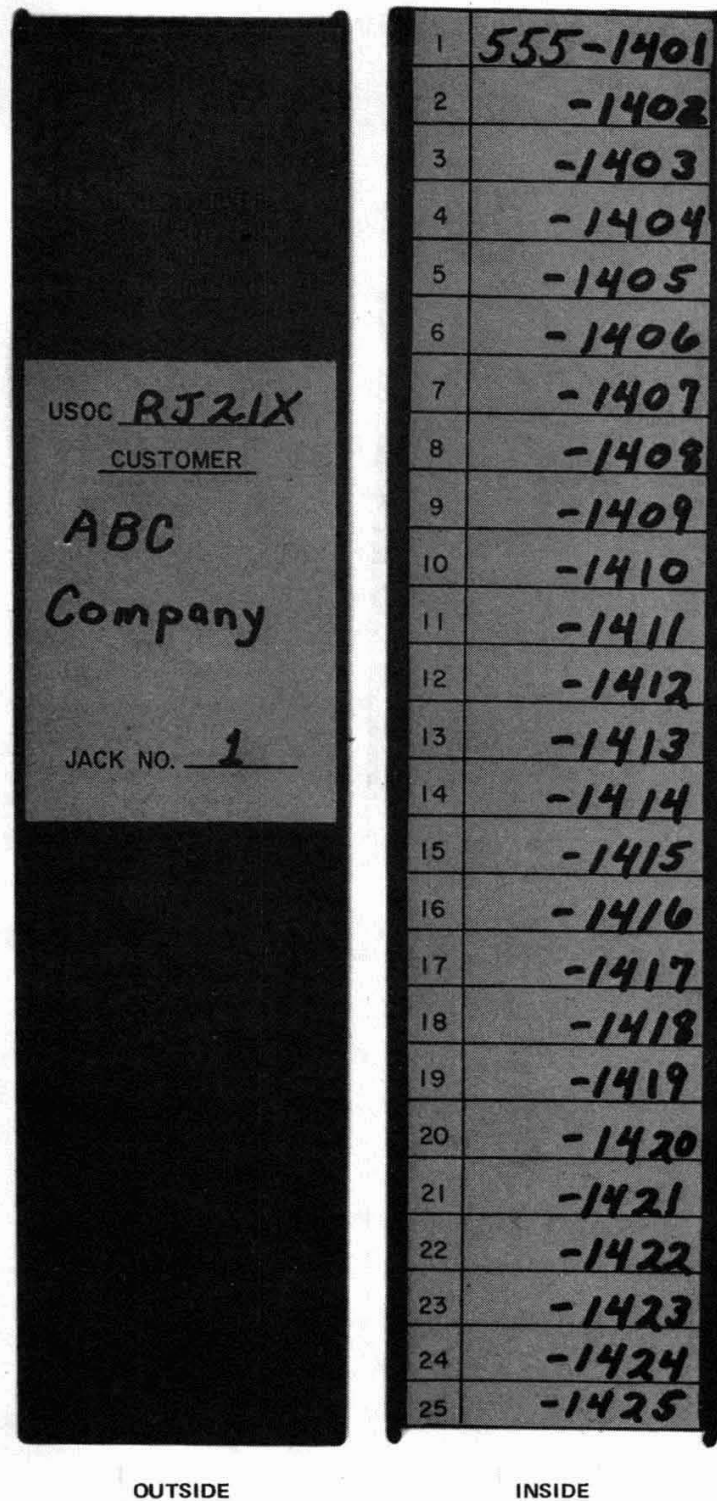

Fig. 10—Labeling of Cover for 700A-66-B1-25 Jack
3.08 The 700A-66-B1-25, 700A-R-B1-100, and 700B-66-B1-12 jacks should be labeled by writing the USOC number, customers name, and jack and plug number on the front of the protective cover as appropriate and the identity of each binding post pair on the inside of the cover (Fig. 10, 11, and 12). The protective cover should be kept in place on all blocks not being serviced to prevent accidental service interruptions.